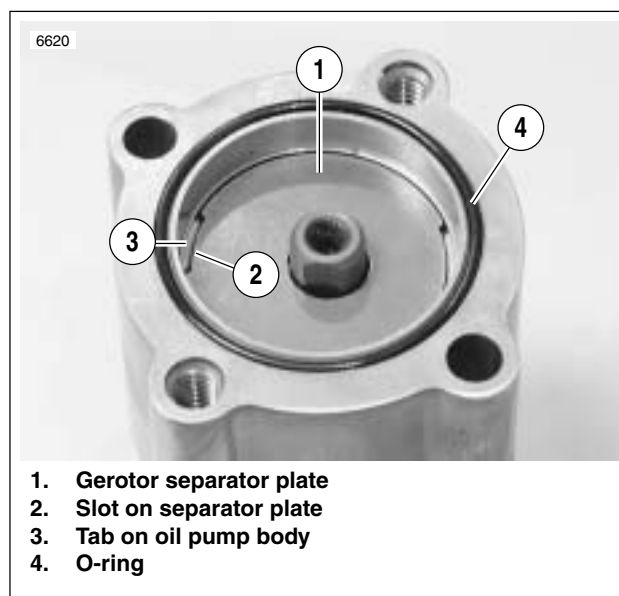

Figure 3-121. Separator Plate Slots
4. See Figure 3-121. Install gerotor separator plate by lining up slots on perimeter with tabs inside oil pump body.